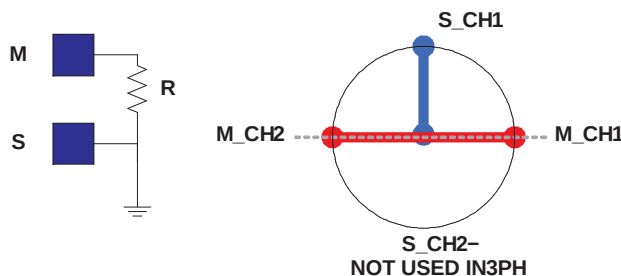

**Figure 27. Phase System: 2 Channels of the Master and 1 Channel of the Slave**
Configuring for other than 2, 4, 6, 8, 12 or 16 phases is simply a matter of not attaching one or more slave controllers. The phasing between master and populated slaves is as shown above. For example a 3-phase system could be configured with a master CH1 and master CH2 and 1 phase of a slave. Referring to Part (B) above, the 3 phases could be master CH1, master CH2 and slave CH1 or slave CH2 as shown in Figure 27.